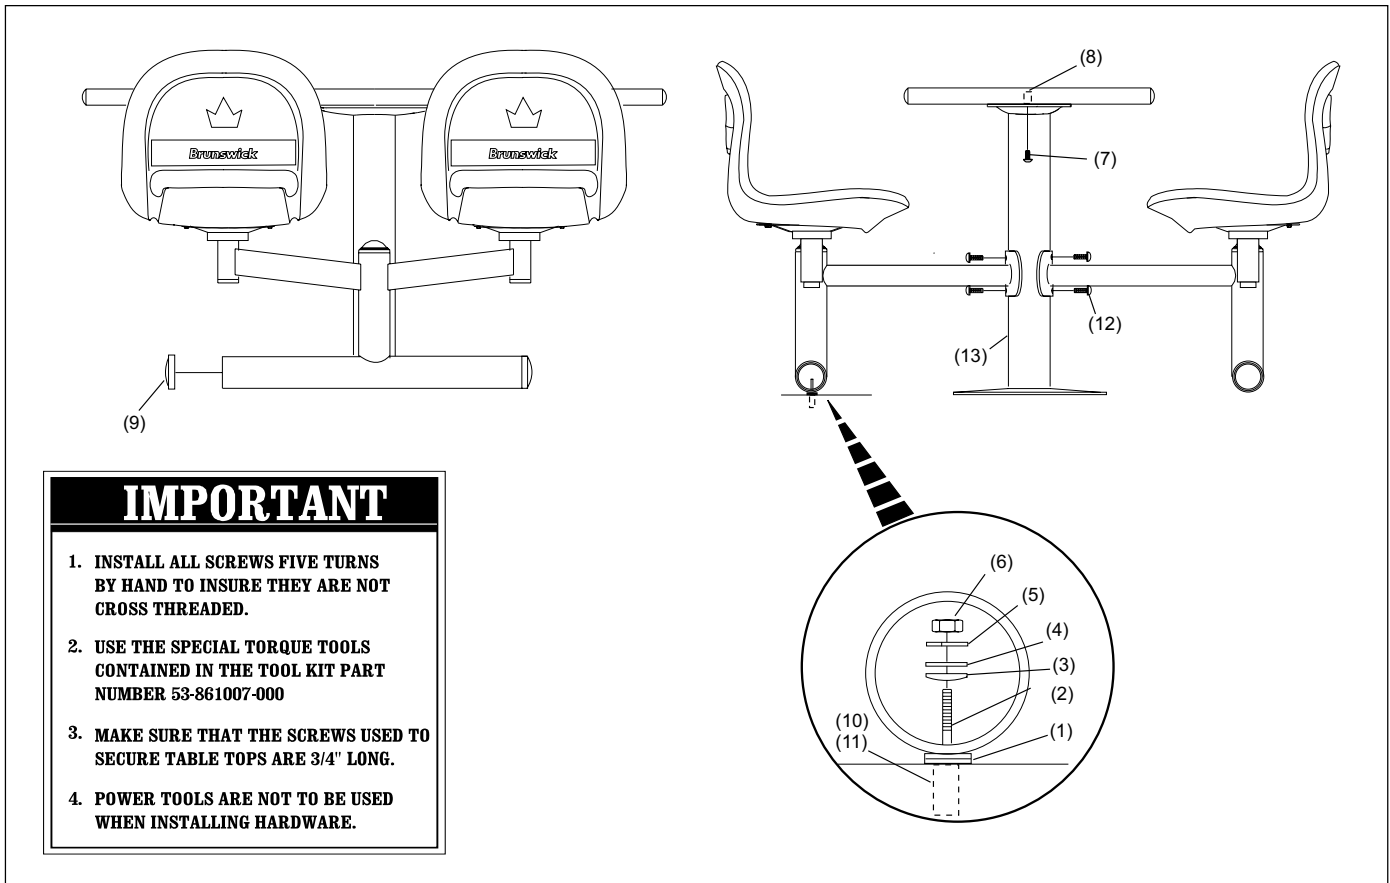

Figure 26. Assemble Table and Chair
1. Secure seat outriggers to center table post using four 3/8-16 - 1" button head cap screws. Refer to *Figure 26*.
2. Align the threaded insert in the table top with the mounting holes in the table mounting plate. Secure the table top to the two table mounting plates with four 3/8-16 x 3/4" button head cap screws. Refer to *Figure 26*.